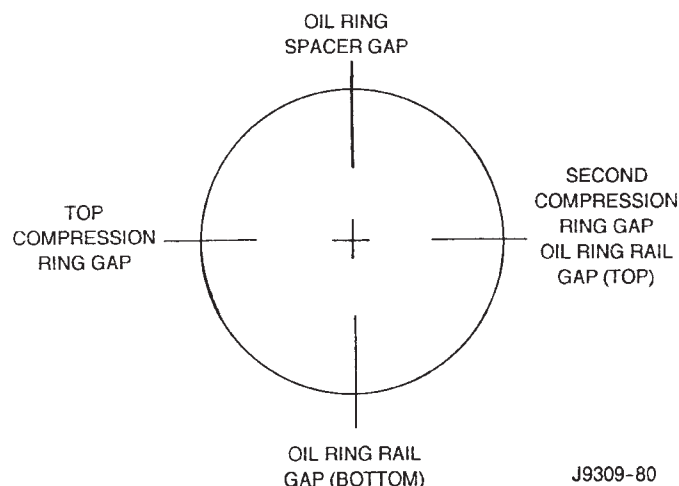

Fig. 40 Proper Ring Installation
- (1) Be sure that compression ring gaps are staggered so that neither is in line with oil ring rail gap.
- (2) Before installing the ring compressor, be sure the oil ring expander ends are butted and the rail gaps located properly (Fig. 40).
- (3) Immerse the piston head and rings in clean engine oil. Slide Piston Ring Compressor Tool C-385 over the piston and tighten with the special wrench (part of Tool C-385). **Be sure position of rings does not change during this operation.**
- (4) Install connecting rod bolt protectors on rod bolts. The long protector should be installed on the numbered side of the connecting rod.
- (5) Rotate crankshaft so that the connecting rod journal is on the center of the cylinder bore. Be sure